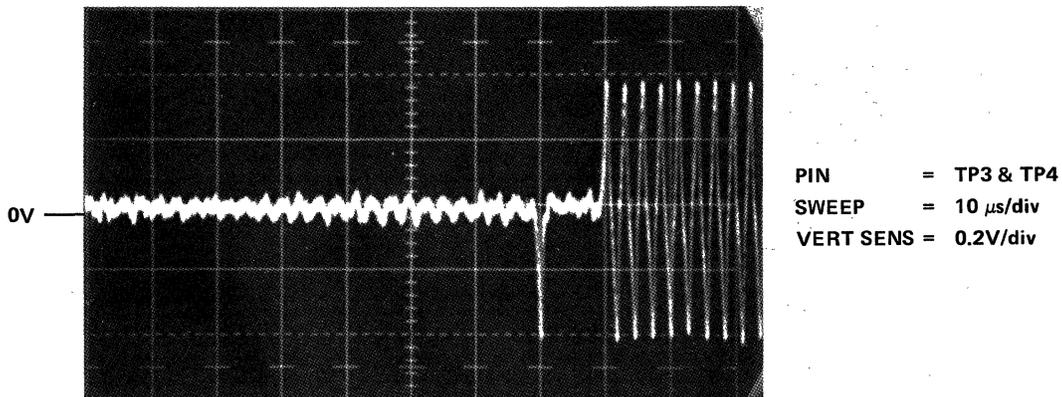

Figure 5-18 Index/Sector Waveform
11. Expand the sweep time to 10  $\mu$ s/div and check that the single pulse occurs  $70 \pm 10 \mu$ s from the start of the sweep (Figure 5-18).
- c. Observe the track scale and note the cylinder indication when the "right on" waveform (Figure 5-18) is obtained. If the scale indicates less than 105, the head is too far forward in the carriage. Conversely, if the scale indicates more than 105, the head is back too far in the carriage.